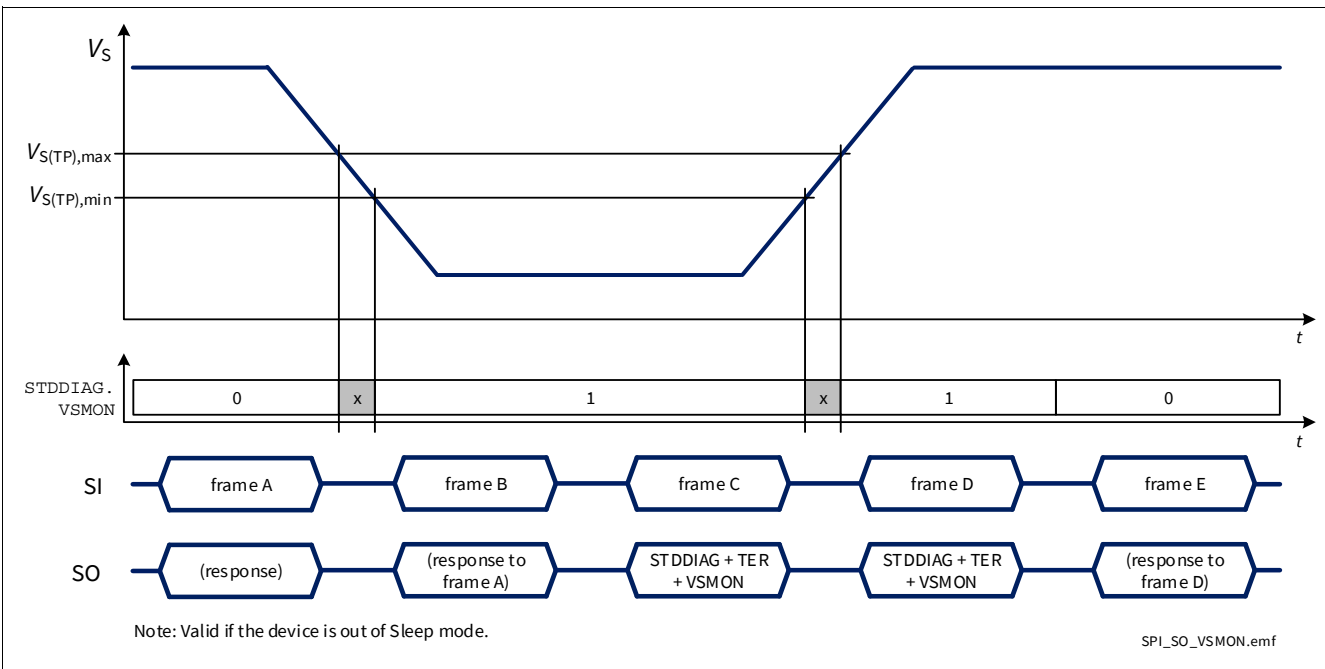

Figure 45 SPI response in case of voltage drop on battery
- When $V_S < V_{S(TP)}$ and $\text{DCR.MUX} \neq 111_B$, as shown in Figure 45